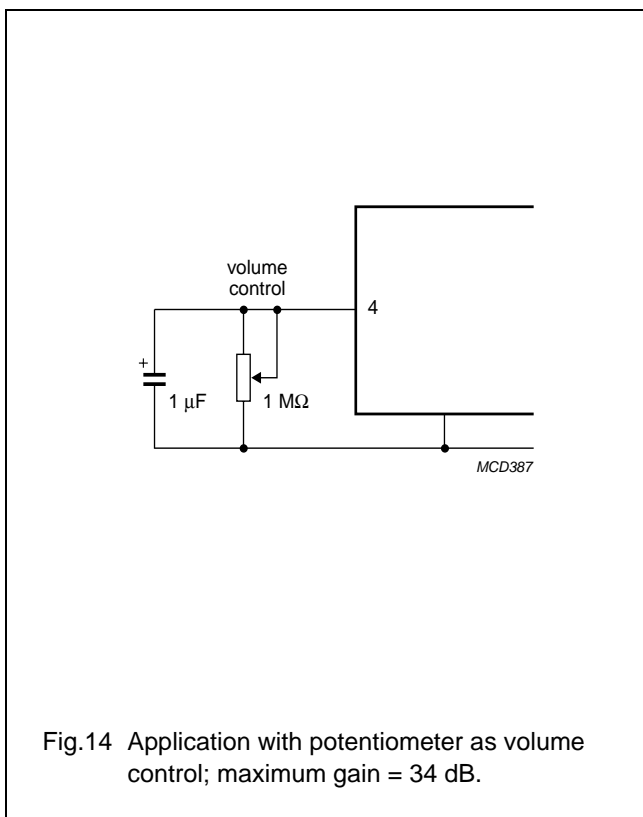

Fig.14 Application with potentiometer as volume control; maximum gain = 34 dB.
5. The DC volume control can be configured in several ways. Two possible circuits are shown in Figs 14 and 15. The circuits at the volume control pin will influence the switch-on and switch-off behaviour and the maximum voltage gain.